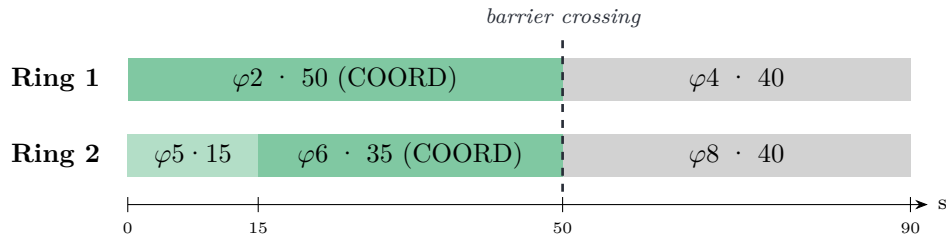

Figure 9: The same plan as Figure 8 as ring timelines. φ_5 is forced off at 15s and φ_6 comes up; both rings cross to the side street together at 50s.
1. **Match each barrier's total across the rings.** In Figure 9, $\varphi_5 + \varphi_6 = \varphi_2 = 50$ on barrier A and $\varphi_8 = \varphi_4 = 40$ on barrier B. If the totals differ, the engine gives the barrier the *longer* total and stretches the shorter ring's phases to fill it, so they run longer than you typed. The game log warns you once.